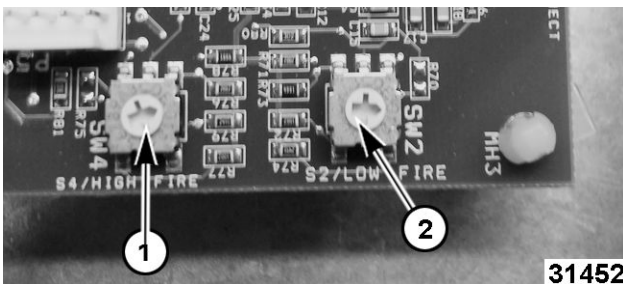

Fig. 44
- High Fire = F (1, Fig. 44)
- Low Fire = 8 (2, Fig. 44)